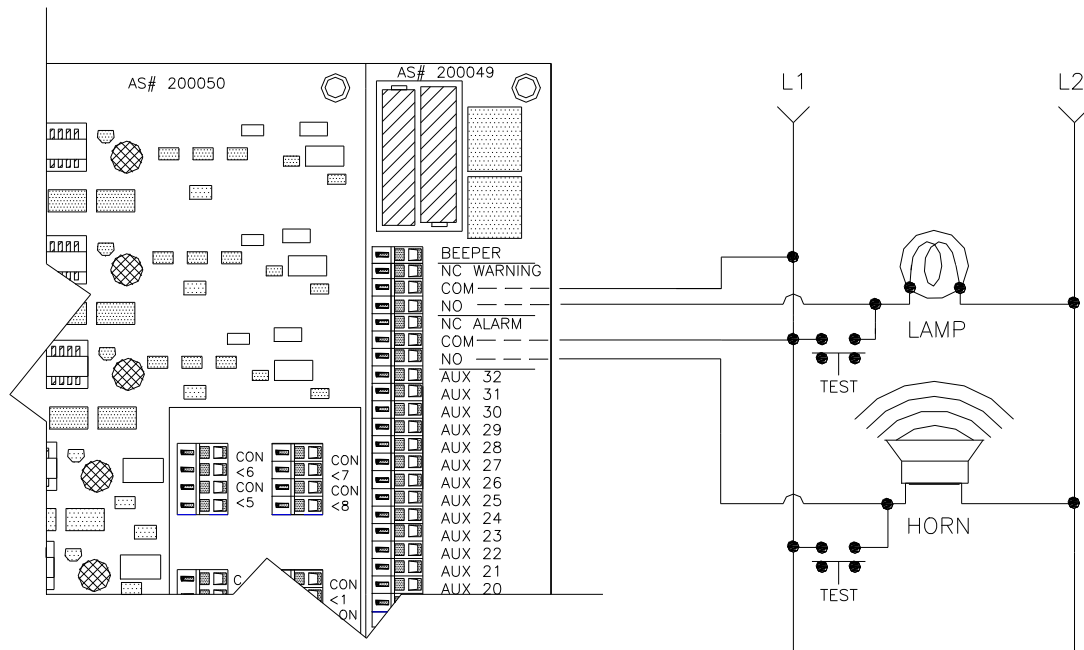

Figure 11. Connections to Temperature Warning & Alarm Relays
6.3.1. WIRING 1 Warning, 1 Alarm, have FORM "2C" (SPDT) dry contacts. For applications involving AC line voltage, leave connections to the contacts and external devices to a qualified electrician. See figure 11.